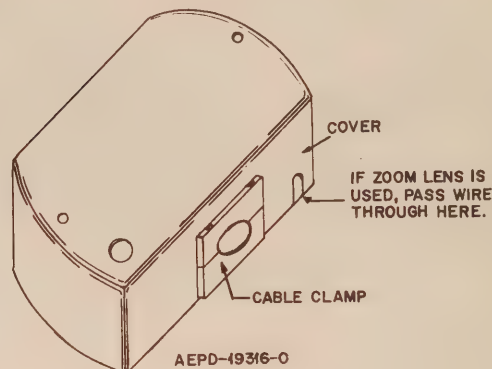

Figure 3.
(4) Attach the wires to the appropriate terminals of the terminal board.
(5) Attach a lead from the zoom lens together with a lead from the control cable together under one terminal screw.
(6) Screw the two short studs into the tapped holes on the back of the camera.
(7) Plug the connector of the junction unit into the camera, and with the two long threaded studs provided, fasten it to the camera.
(8) Place cover in position and fasten with its screws. When placing the cover in position, slide the cable clamp into the notch provided in the cover. See Figure 3.